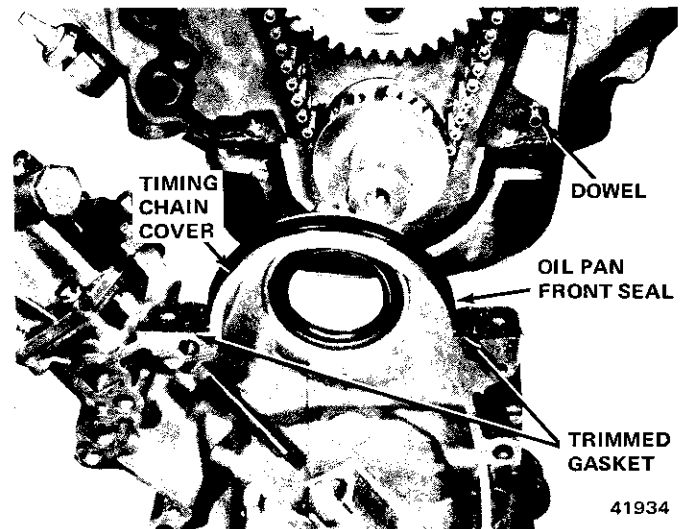

Fig. 1B-76 Oil Pan Front Seal Installation
- (1) Remove lower locating dowel pin from engine block.
- (2) Use sharp knife or razor blade to cut both sides of oil pan gasket flush with engine block.
- (3) Apply Permatex No. 2, or equivalent, to both sides of replacement timing case cover gasket. Install gasket on timing case cover.
- (4) Install replacement front oil pan seal to bottom of timing case cover.
**NOTE:** There are two methods of sealing timing case cover to oil pan where oil pan gaskets were cut off. If replacement oil pan gaskets are used, perform step (5). If room temperature vulcanizing (RTV) silicone is used, perform step (6).
- (5) If oil pan gaskets are used:
- (a) Using original gasket pieces as guide, trim replacement gaskets to correspond to amount cut off in step (2).
- (b) Align tongues of replacement oil pan gasket pieces with oil pan seal and cement into place on cover (fig. 1B-76).
- (h) Proceed to step (7).
- (6) If RTV is used:
- (a) Apply coating of RTV silicone 1/8-inch (3.175 mm) thick on timing case cover flanges (fig. 1B-76). Use Jeep Gasket-in-a-Tube, or equivalent. Flanges must be clean and dry.